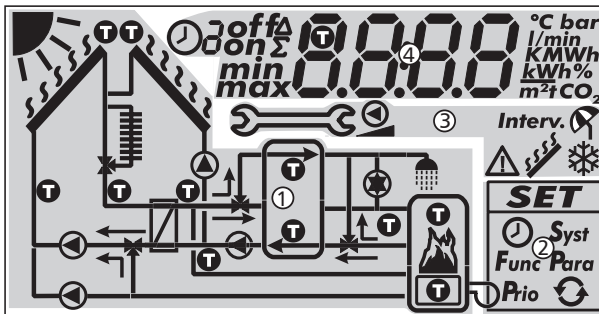

Fig. 8: Overview of the display areas (all elements visible)
The following table describes the symbols used in the system graphics (① in Fig. 8).
The settings menu (② in Fig. 8) contains the following entries:
The following table describes the pictograms used for functions (③ in Fig. 8).
The display of the operational and setting values (④ in Fig. 8) consists of the following elements:
①	<p>Symbol for time control of functions. This symbol is displayed when:</p> <ul style="list-style-type: none"> • a time restriction / control has been set, • the status of time restriction/control is displayed, • the time restriction blocks a temperature control (symbol flashes).
②	<p>Number of the time window that is currently being set/displayed or within which the current time lies. The time control of a function consists of 1 to 3 configurable time windows. Example: Time window 1 06:00 – 08:00 Time window 2 11:00 – 12:30 Time window 3 17:00 – 19:00</p>
③	<p>Additional information on, off: Switching state/condition on, off max, min: Maximum value, minimum value Σ: Summed operational value since first commissioning, cannot be reset Δ: Summed operational value since last reset to 0</p>
④	<p>Symbol is displayed when a temperature sensor is selected when setting a function.</p>
⑤	<p>Display of:</p> <ul style="list-style-type: none"> • Measurements • Settings • Error codes • Additional information, e.g. software version
⑥	<p>Physical unit of the value displayed in ⑤: °C, K, l/min, %, h, kWh, MWh, tCO₂</p>